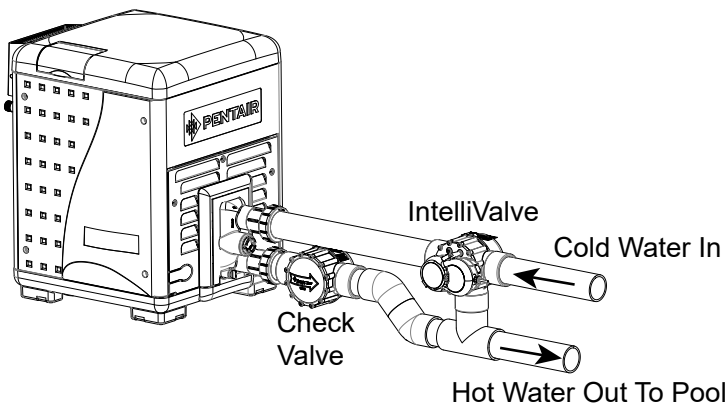

Figure 1. Valve positioned left side of heater
1. Cut the heater inlet plumbing and install the 2" 3-Way valve (Pentair P/N 263026) as shown in Figure 1 & 2.